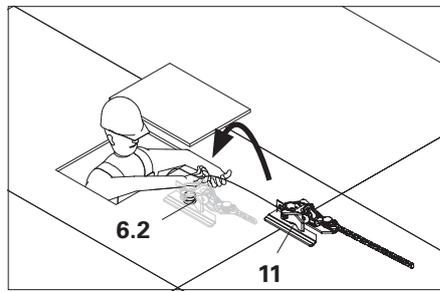

Fig. A6.10
2. From the assembly level, guide the rope which had been previously attached to the Lifting Head (11) along the side of the table to the box out on the moving pin. (Fig. A6.10)